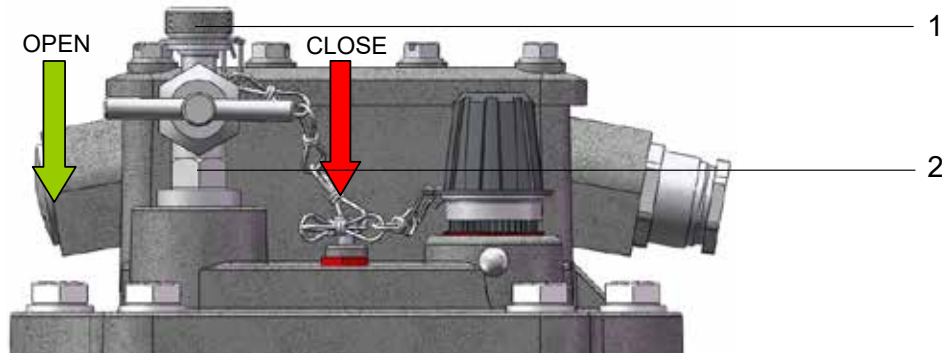

Figure 2 - Bleeding valve
- Remove the small cap nut (Fig. 2/ no. 1) from the bleeding valve (Fig. 2/ no. 2)